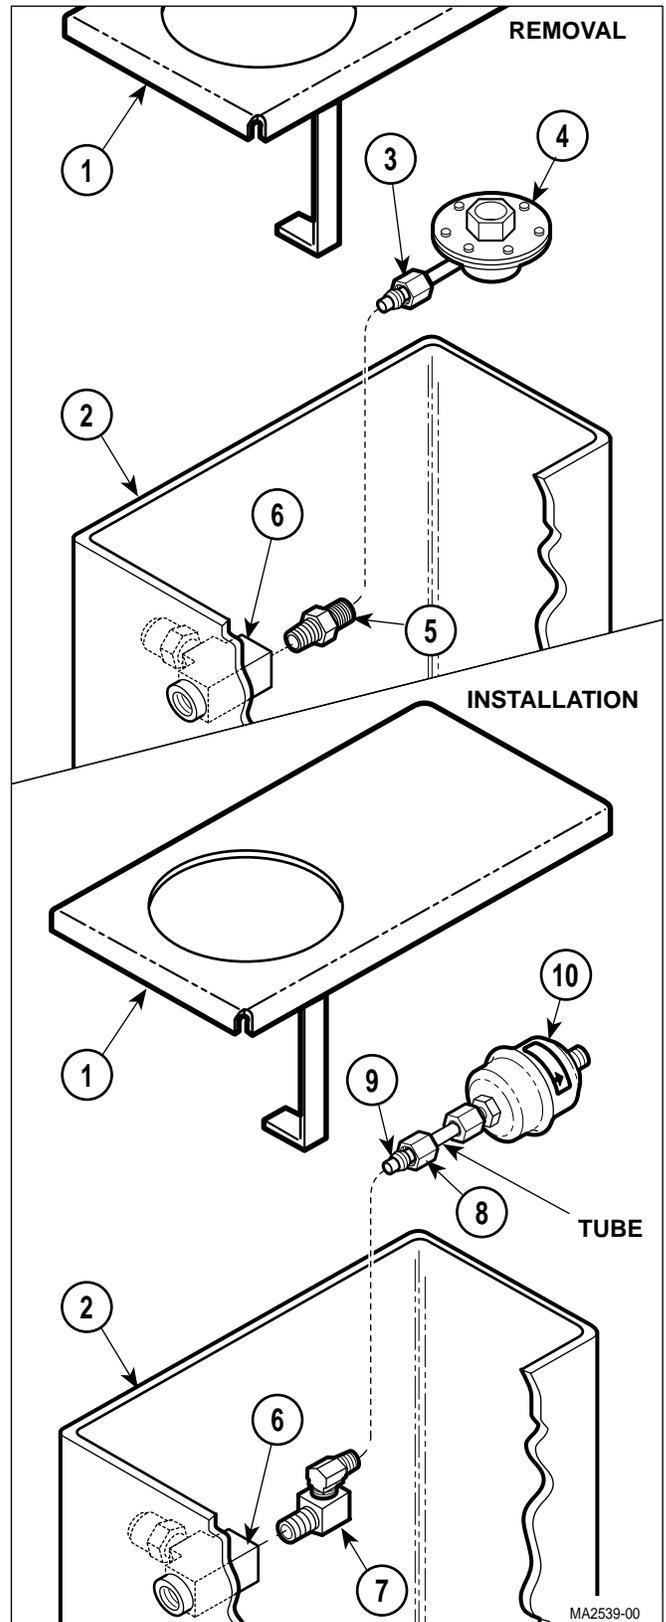

Figure 4-17. Bellows Assembly
- (2) Remove tank cover (1, Figure 4-17) from tank assembly (2).
- (3) Loosen compression nut (3) and remove bellows assembly (4) from male connector (5).
- (4) Remove male connector (5) from tee (6).